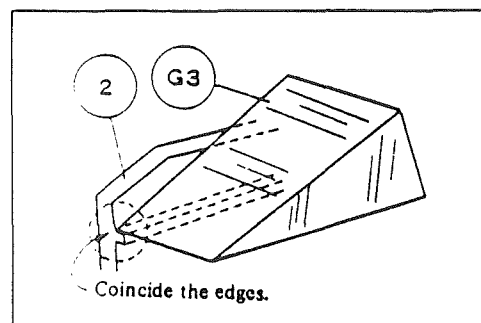

Fig. 16
- 1) Insert the lens chamber (3) (with G1 and G2 inside, to be positioned as  thicker), and screw in retaining ring (4). Applying adhesive No. 350, attach (4) to (3) after adjusting the optical axis (P. 40).
- 2) Assemble prism G3 on the mount (2), and fix it with plastic screw (6), temporarily. Set the prism in such a position as shown in Fig. 16, that the end surface of the prism holder coincides with the bottom edge of the 30° surface of the prism G3. (Fig. 16)